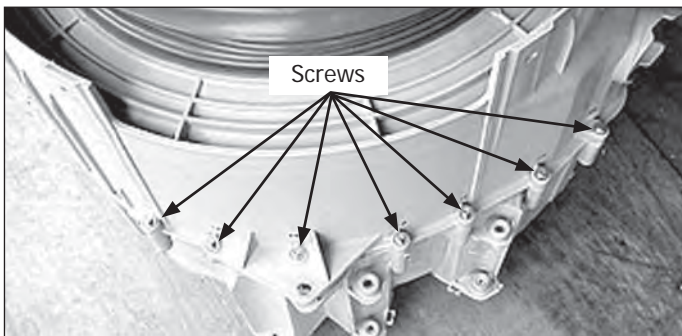

Figure 4-103.
12. Turn the tub over and remove the (23) screws holding the two halves of the tub together. (See Figure 4-103)